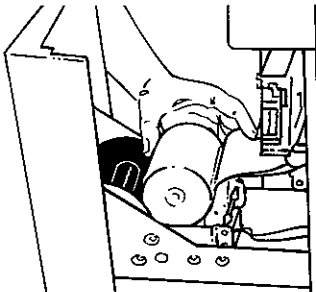

Figure 3.26 Placing a new paper roll into proper position.
6. Place a new paper roll into position so that the paper feeds from the back of the roll (Fig. 3.26).